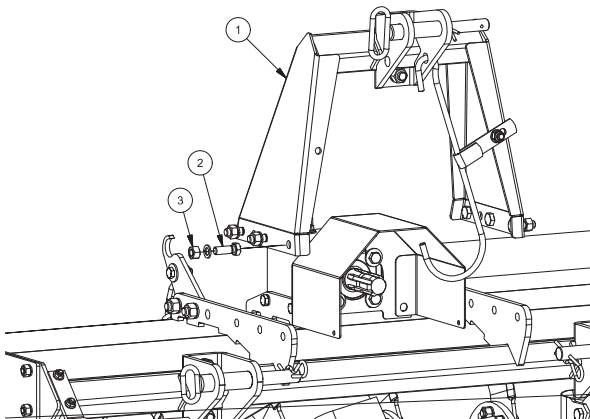

FIG. 6
- Fit the third point (1, Fig. 6), insert it inside between the frame supports; tighten bolts (2) and nuts (3) at the recommended torque (see table "Bolt driving torque (Nm)" on page 42)